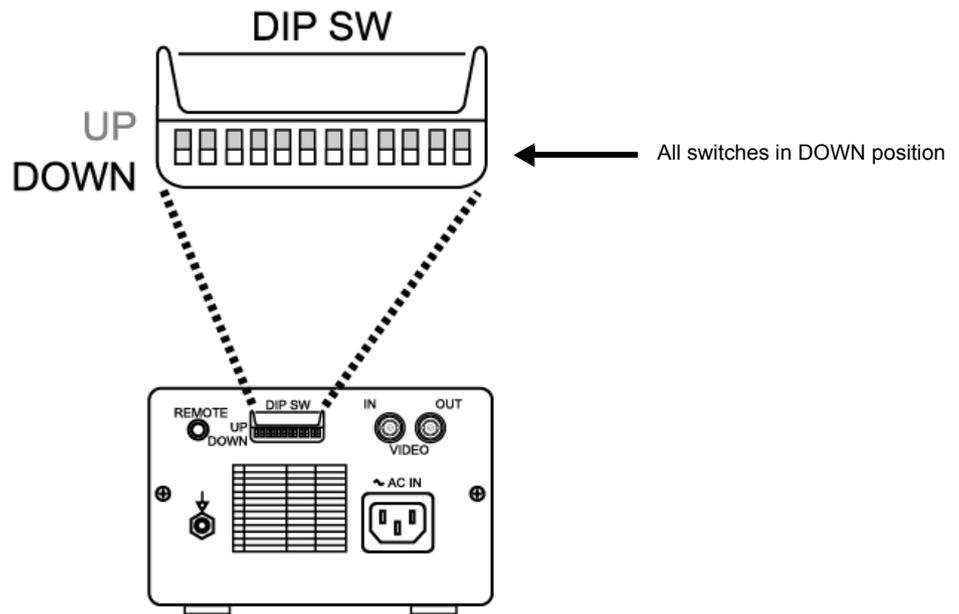

Figure 8-101 B/W Video Printer, DIP Switches on the Rear Panel
- 5.) Verify that all the DIP Switches on the rear panel of the B/W Video Printer are in the **Down** position as shown in Figure 8-101 on page 8-115.